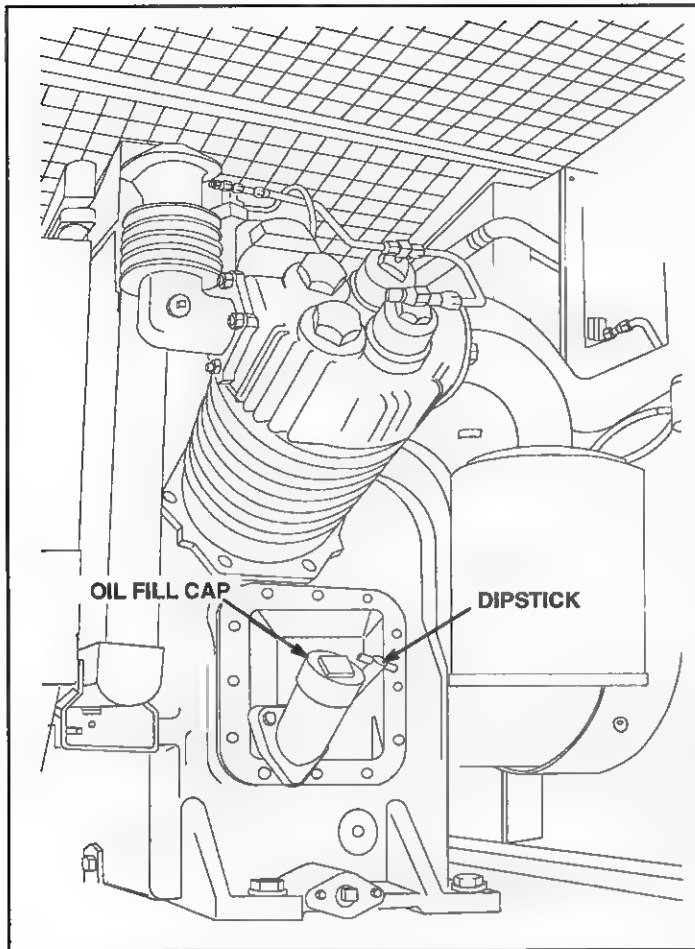

FIG. 32. AIR COMPRESSOR LUBRICATING-OIL DIPSTICK (TYPICAL). E-38383A.
4. Compressor Lubricating Oil (Fig. 32) – A dipstick, located near the fill cap, can be used to determine the oil level in the compressor crankcase.